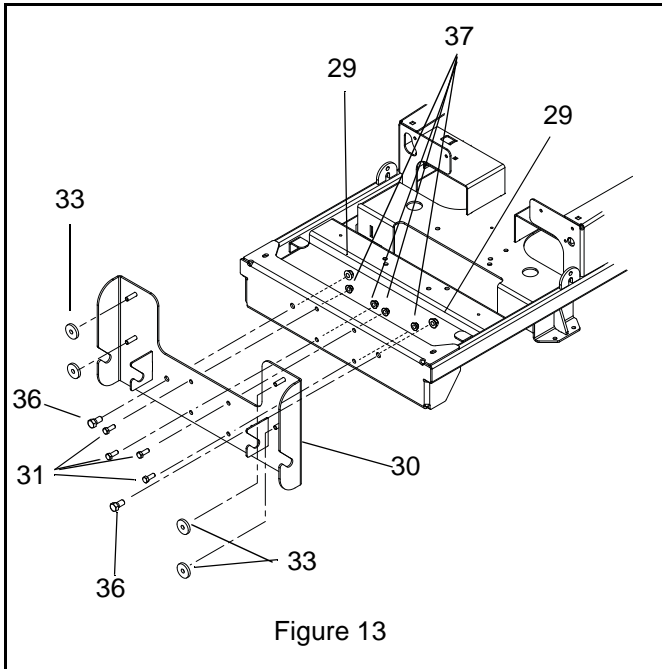

Figure 13
### INSTALL COVER ASSEMBLY (FIGURE 13)
3. Remove cover assembly from unit (see figure 13 on page 15).